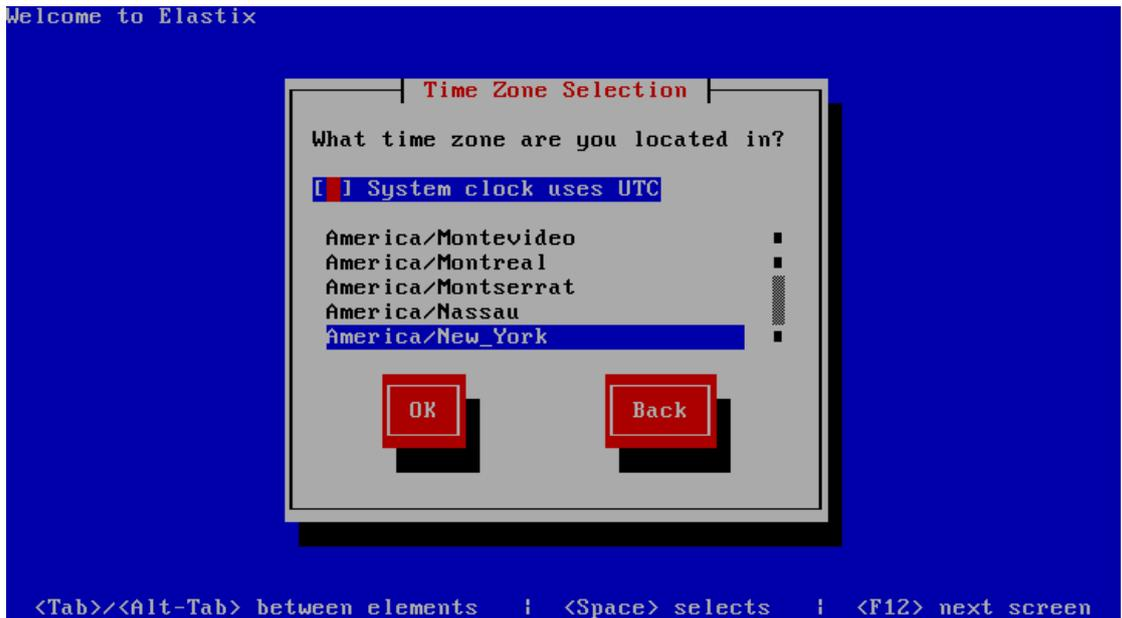

Figure 11
11. Next, select a time zone according to the real situation. Here we select 'America/New\_York' (Figure 11).